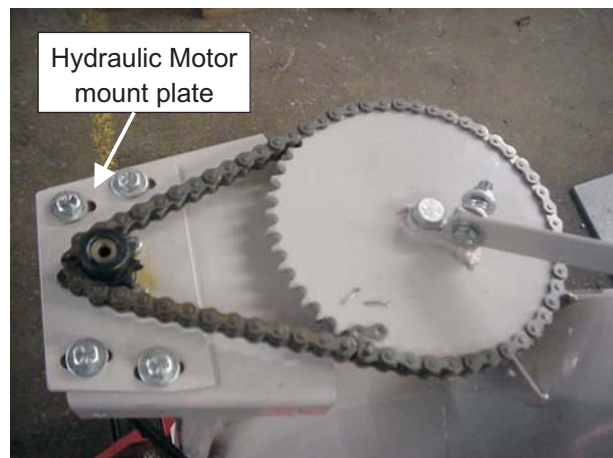
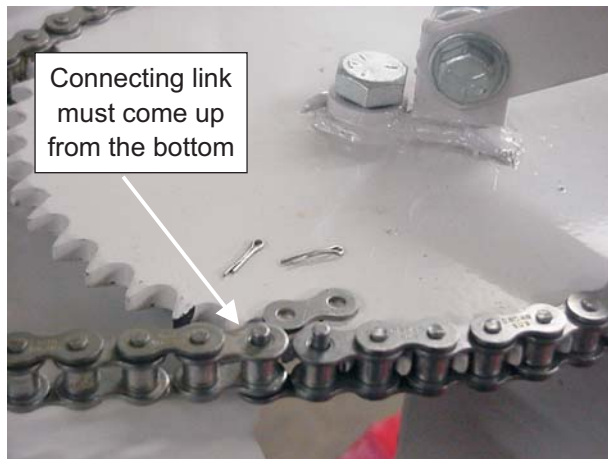
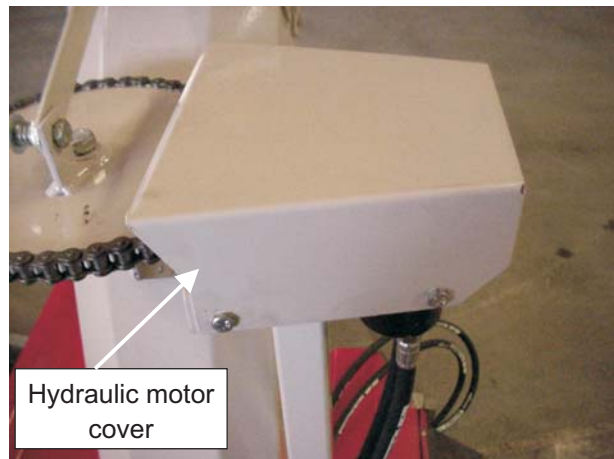

Figure 4
Figure 5
Figure 6
Loosen the bolts of the hydraulic motor mount plate (Fig. 4) and install the chain. Ensure that the connecting link comes up from the bottom with the cotter pins on top, fig. 5. Tighten the chain by sliding the motor away from the chute. The chain should have approximately $\frac{1}{4}$ " side movement. Re-tighten bolts. Install the cover over the hydraulic motor and secure with four (4) $\frac{1}{4}$ " bolts, Fig. 6.